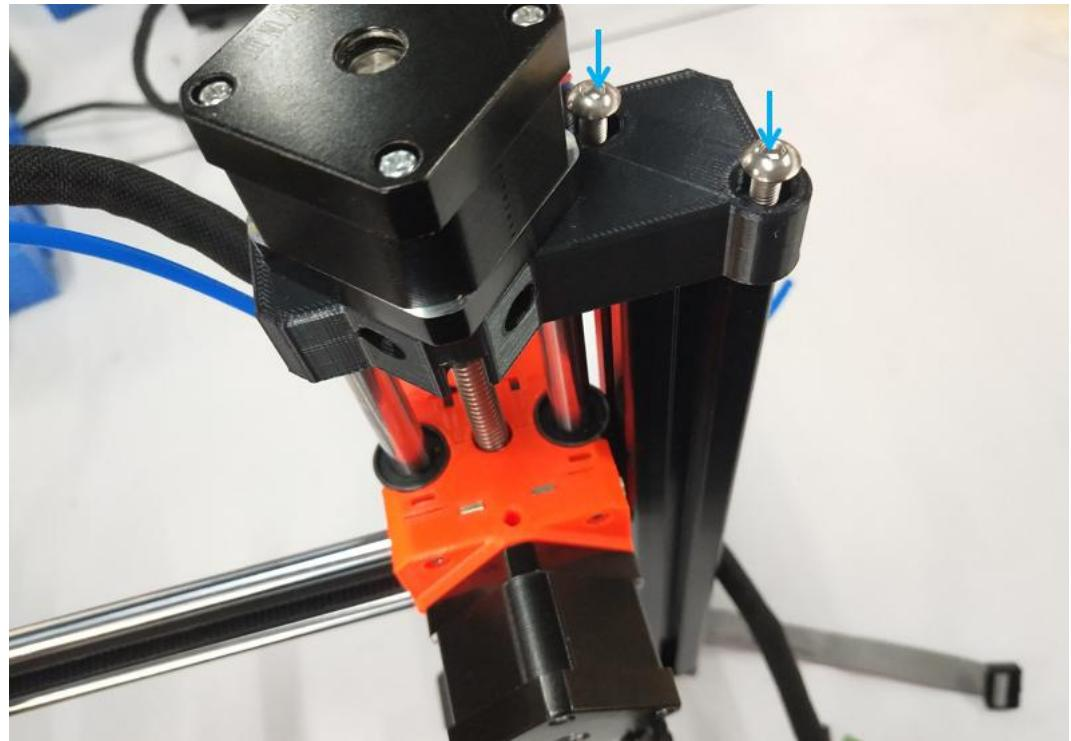

Figure 4.1.7
**Step 4-1-5:** As shown in Figure 4.1.7, use 2pcs M5×15 semi-circular head bolts to lock the MINI-z-top and Z-axis aluminum profiles.